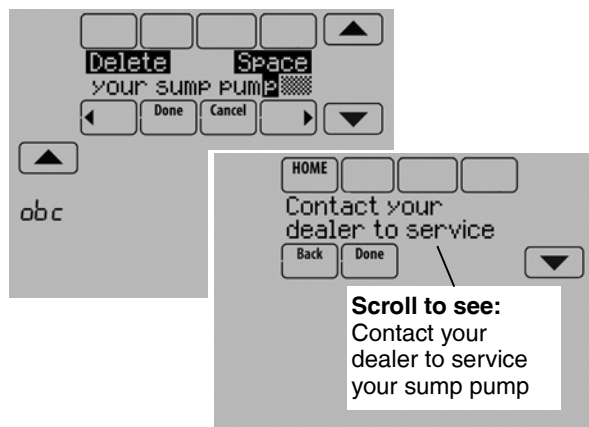

Fig. 162.
7. Type the custom alert message and press Done. The custom alert message appears after selecting the alert and pressing “View More Info”. See Fig. 162. You can edit or confirm the alert message after you enter it.